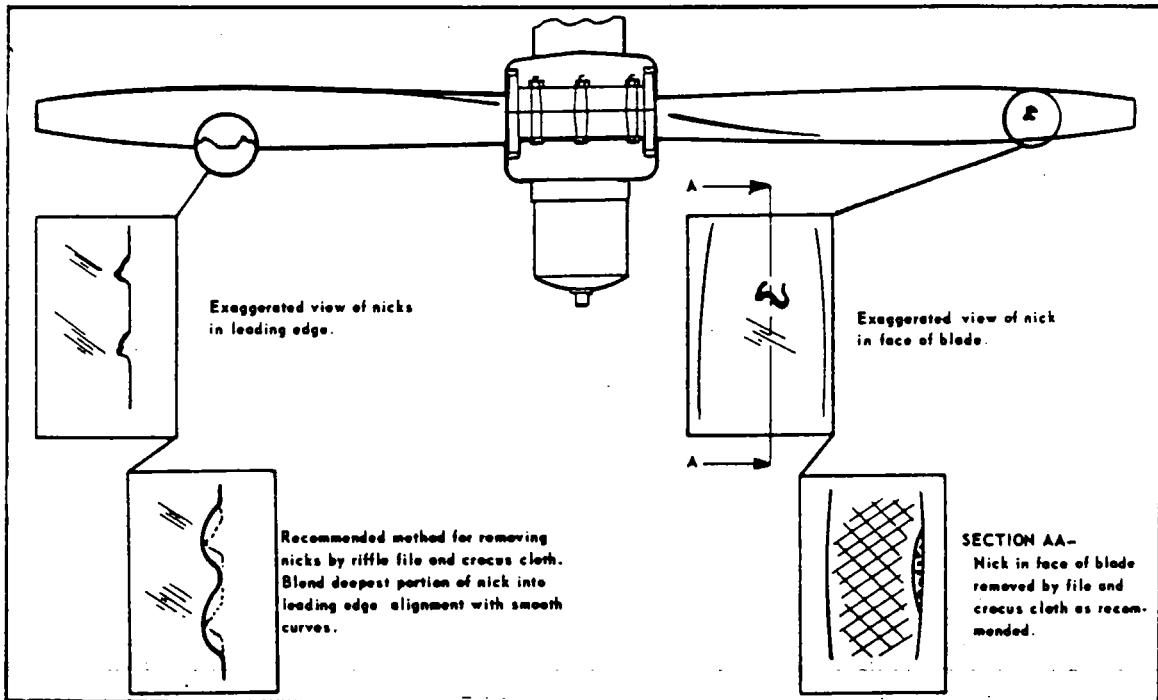

Figure 7-2. Typical Nicks and Removal Method
- g. Inspect blades for damage or cracks. Nicks in leading edges of blades should be filed out and all edges rounded, as cracks sometimes start from such places. Use fine emery cloth for finishing. Refer to Figure 7-2 for propeller blade care.